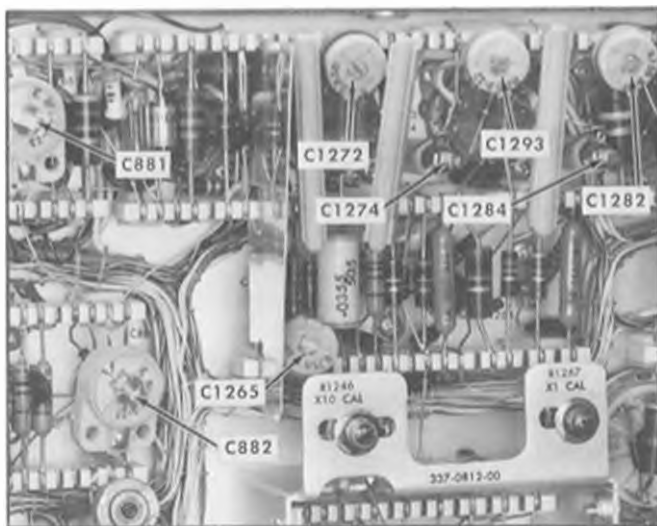

Fig. 6-50. High-speed sweep compensation adjustments—B sweep.
- Adjust C881 (see Fig. 6-50) to obtain one marker/cm.
- c. Adjust C882 (see Fig. 6-50) for one marker/cm on the Upper Beam display.
- f. Adjust C1293 (see Fig. 6-50) for maximum sweep expansion.
- g. Adjust C1282 (see Fig. 6-50) for maximum sweep expansion.
- h. Adjust C1272 (see Fig. 6-50) for maximum sweep expansion.
m. Adjust C1265 (see Fig. 6-50) for 1 cycle/2 cm and so the sine-wave peaks at 1-cm and 9-cm locations coincide with their respective graticule lines.